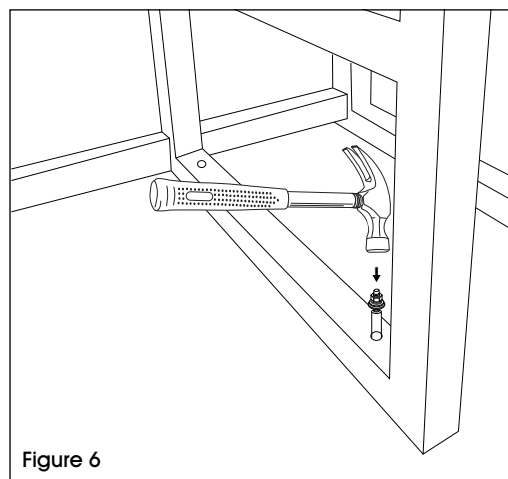

Figure 6
4. Slightly tap down the anchor bolt with a hammer if needed. Tighten the nut until the anchor bolt is secure. (See Figure 6)